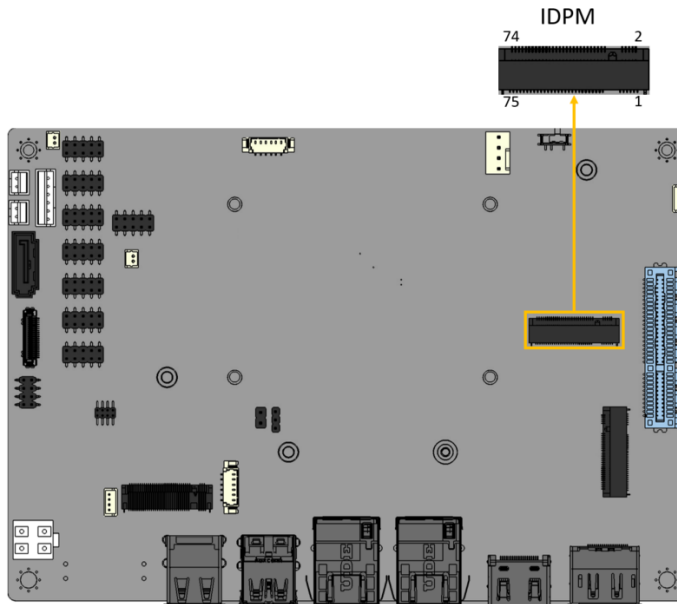

Figure 3-27: IDPM Slot Location
- CN Location:** See **Figure 3-27**